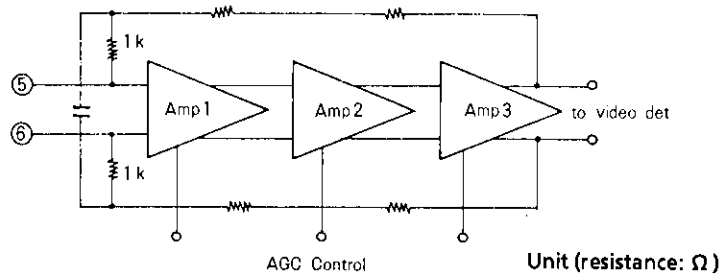

Fig. 1
As shown in Fig.1, the IF amp consists of three amplifiers directly connected with balanced input. Amps 1, 2 and 3, and the gain are controlled by the AGC.
a. Connect a digital voltmeter to pin 20 (APC filter pin) (Fig.1).